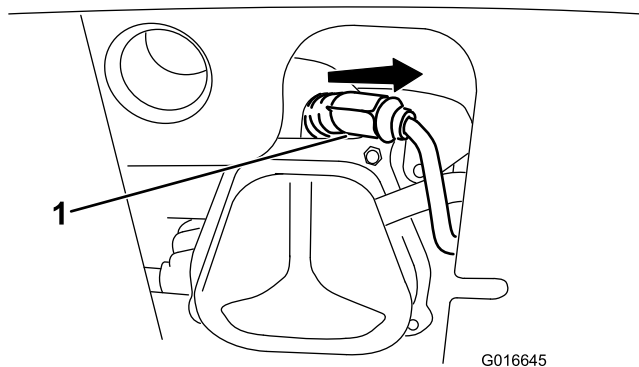

Figure 41
- Remove the boot (Figure 41).